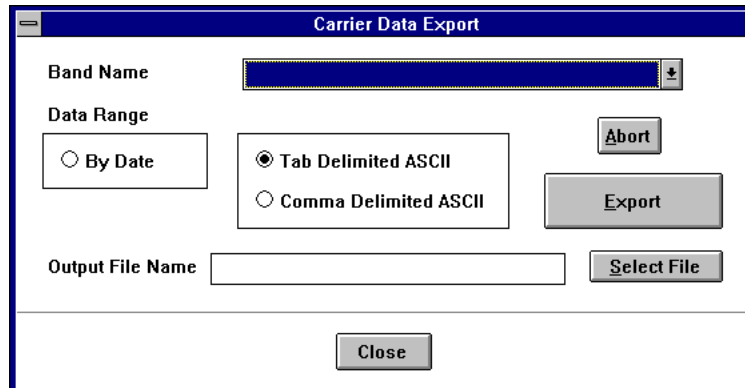

Figure 9-5: Frequency & Power Data Export Dialog Box
1. Select **Signal Log** from the Export Data selection list to open the **Frequency & Power Data Conversion** dialog box (Figure 9-5).